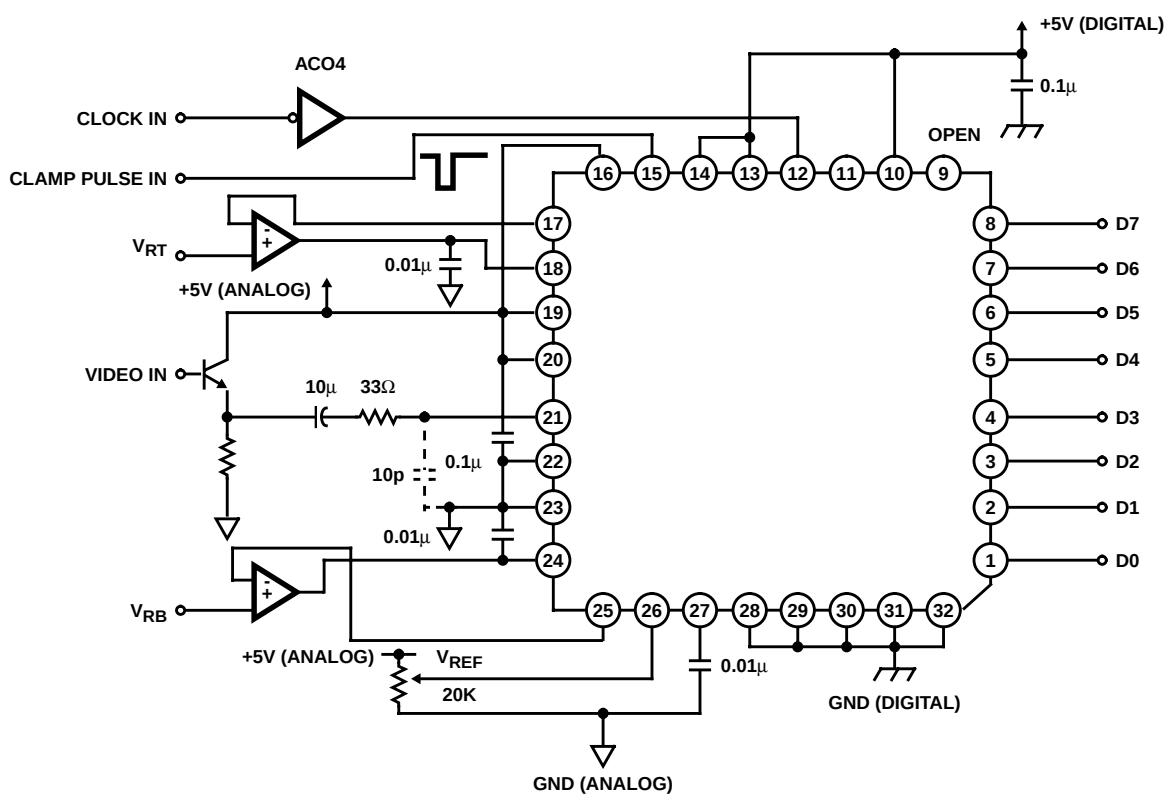

FIGURE 10. WHEN CLAMP IS USED (SELF-BIAS NOT USED)
- The HI2302 is a two-step parallel system A/D converter featuring a 4-bit upper comparator block and two lower comparator blocks of 4-bit each. The reference voltage that is equal to the voltage between V_{RT} - $V_{RB}/16$ is constantly applied to the upper 4-bit comparator block. Voltage that corresponded to the upper data is fed through the reference supply to the lower 4-bit comparator block. Voltage that corresponded to the upper data is fed through the reference supply to the lower 4-bit comparator block. V_{RTS} and V_{RBS} pins serve for the self generation of V_{RT} (reference voltage top) and V_{RB} (reference voltage bottom), and they are also used as the sense pins as shown in the Application Circuit examples Figures 10 and 11.
- The operation of respective parts is as indicated in the Timing Chart II. For instance, input voltage V_I (1) is sampled with the falling edge of the external clock (1) by means of the upper comparator block and the lower comparator A block. The upper comparator block finalizes comparison data MD (1) with the rising edge of the external clock (2). Simultaneously the reference supply generates the lower reference voltage RV (1) that corresponded to the upper results. The lower comparator A Block finalizes comparison data LD (1) with the rising edge of the external clock (3). MD (1) and LD (1) are combined and output as Out (1) with the rising edge of the external clock (4). Accordingly there is a 2.5 clock delay from the analog input sampling point to the digital data output.